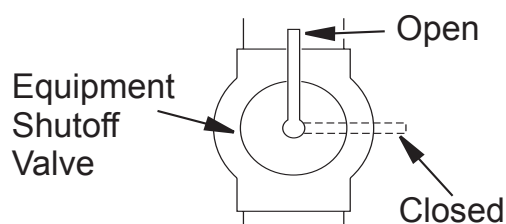

Figure 14 - Equipment Shutoff Valve
1. Close equipment shutoff valve (see Figure 14).
1. Open equipment shutoff valve (see Figure 14).
- Close equipment shutoff valve (see Figure 14, page 10).